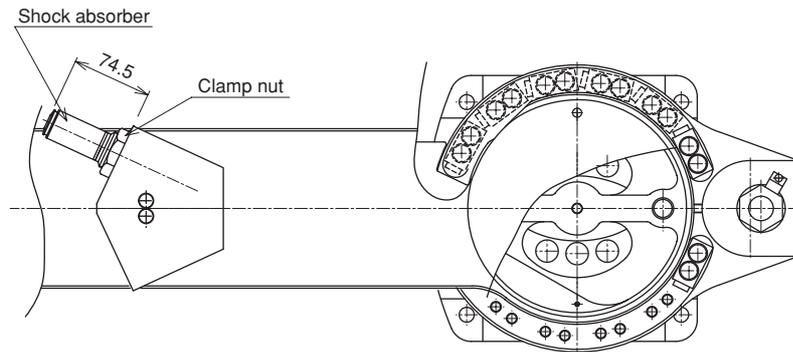

Fig. 3-102
- 7) Assemble the shock absorber into the shock absorber clamp parts and adjust the absorber projection length as shown in Fig. 3-102.